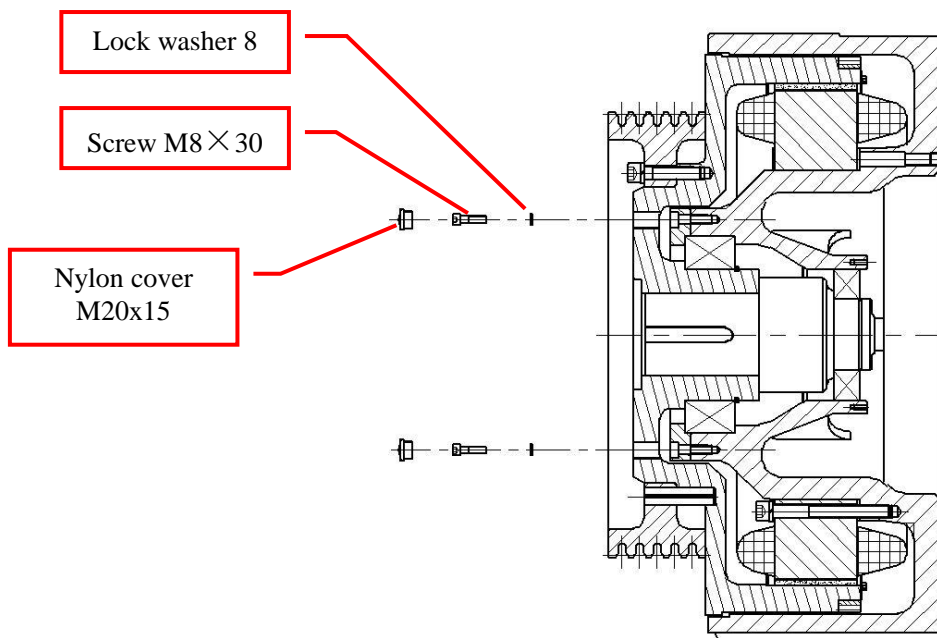

Figure 58: Remove M8x30 screws
5. Remove the nylon cover M20×1.5 with screwdriver, then make the hex wrench (6mm) pass through the nylon cover hole to remove the screws M8×30 and lock washers 8. See Figure 58.